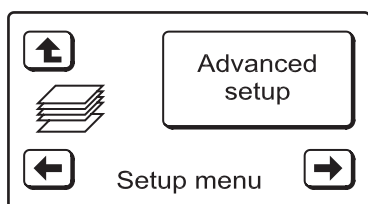

FIG. 57
2. Press the LEFT (←) button twice to display the screen shown in Figure 57.